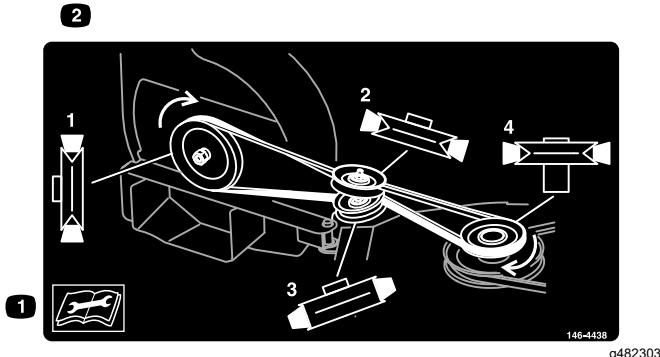

Figure 5
3. Install the belt to the pulleys and idler assembly as shown in Figure 5 and Figure 6.